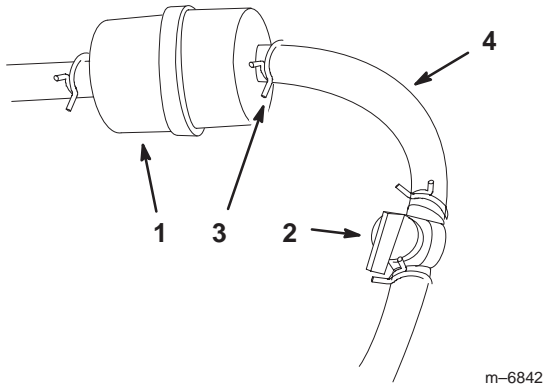

Figure 42
7. Install a new filter and move the hose clamps close to the filter (Fig. 42).
2. Close the fuel shut-off valve (Fig. 42).
3. Loosen the hose clamp at the fuel filter and slide it up the fuel line away from the fuel filter (Fig. 42).
4. Pull the fuel line off fuel filter (Fig. 42). Open fuel shut-off valve and allow gasoline to drain into a gas can or drain pan.
5. Install the fuel line onto the fuel filter. Slide the hose clamp close to the fuel filter to secure the fuel line (Fig. 42).